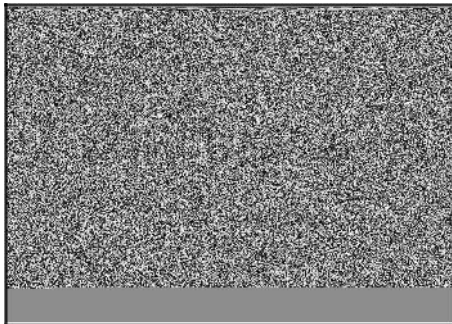

Figure 4
3. Remove screws (A, Figure 4) holding upper muffler bracket to lower muffler bracket.